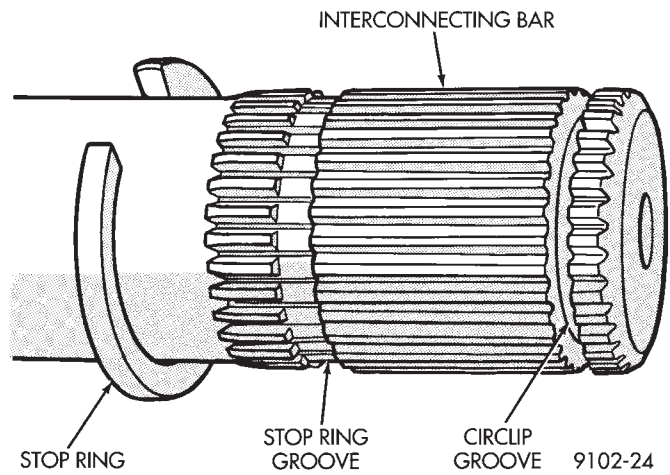

Fig. 7 Tripod Removed From The Interconnecting Bar
(4) Remove the tripod from the interconnecting bar. It is not necessary to remove the stop ring from the interconnecting bar unless the bar is being replaced (Fig. 7).